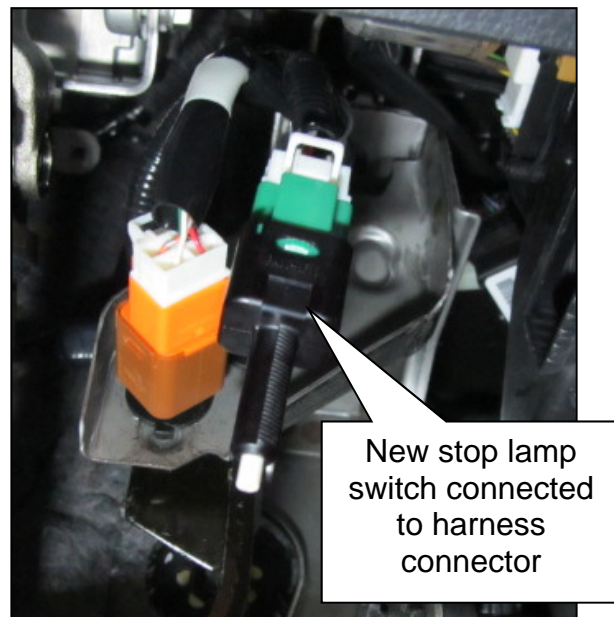

Figure 2
4. Connect the new stop lamp switch, from the **PARTS INFORMATION** table on page 6, to the harness connector (Figure 2).